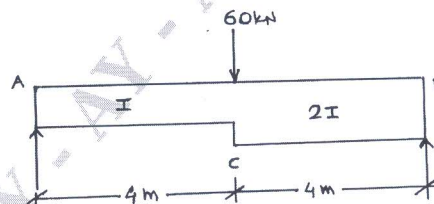

Fig.Q5(b)
- b. Determine θ_A , θ_B , θ_C and deflection at 'C' in the beam shown in Fig.Q5(b) by conjugate beam method.